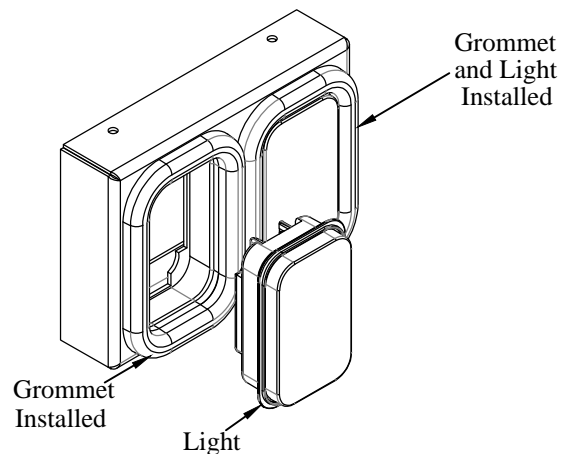

Figure 9
Step 13. If the lights are in correct operation, push lights into installed rubber grommets (Figure 9).